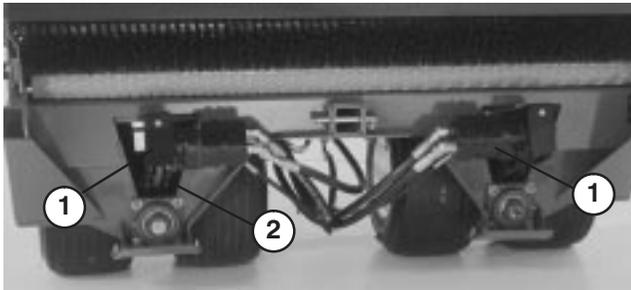

Figure 18
1. Loosen carriage bolts and nuts securing hydraulic motor/pump to axle cradle (Fig. 18).